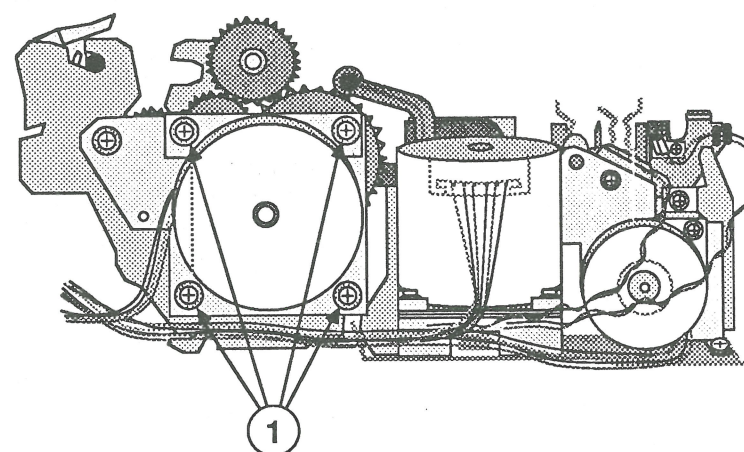

FIGURE 58
4. Remove the four Phillips screws that secure the paper feed motor to the paper feed motor bracket (Figure 58, #1). Remove the paper feed motor.